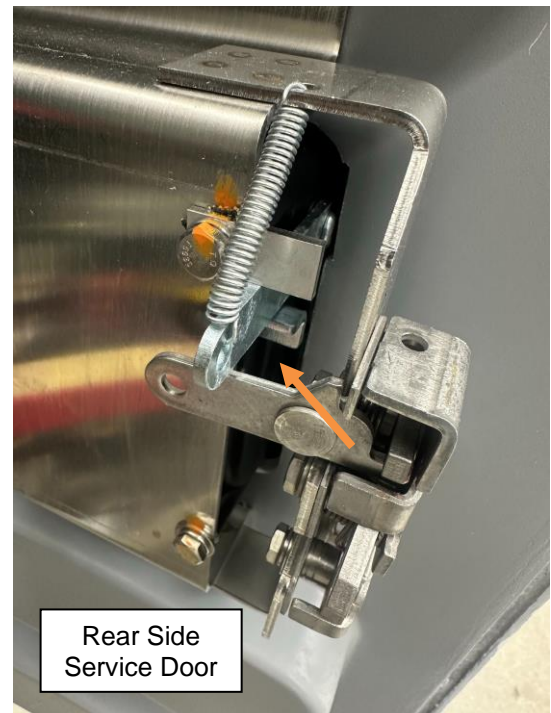

Figure 4: Adjusted Stopper Bracket with Link in Closed Position
6. In this screw location, install the new handle lever arm stopper bracket (PN 1093572) then fasten in place using one new washer (PN 19-2-23), one new screw (PN 19-1-386). Make sure the position of the link is at closed position so that the position of the stopper could be adjusted, and it is not interfering with the link while locking the door. See Figure 4. Apply 1-2 drops of Loctite 243 (PN 23-02-0088) to the threads of the hardware and torque to 9-11 Ft/Lbs. Use a paint marker and apply a torque stripe.